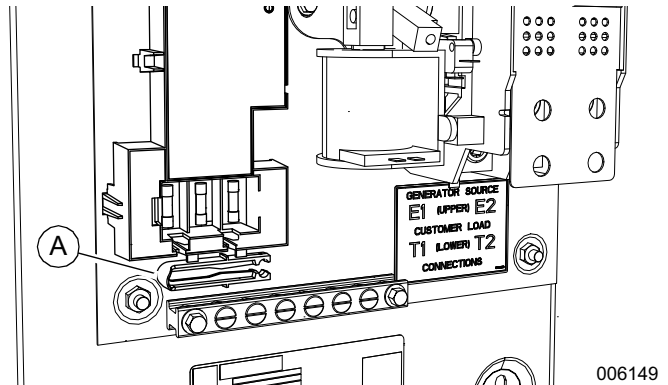

Figure 4-2. Fuse Removal and Installation Tool
See *Figure 4-2*. A fuse removal and installation tool (A) is included in the SACM housing.